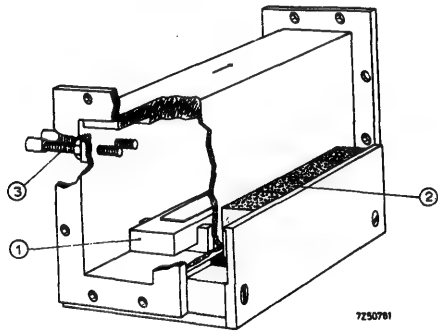

Fig. 7 Field displacement isolator.
A field displacement isolator is shown in Fig. 7. The ferrite bar (1) can be seen inside the waveguide, flanked by two sets of magnets (2) outside the waveguide. These magnets bias the ferrite bar. The adjusting screws (3) protruding into the waveguide are used to match the isolator for minimum voltage standing wave ratio.